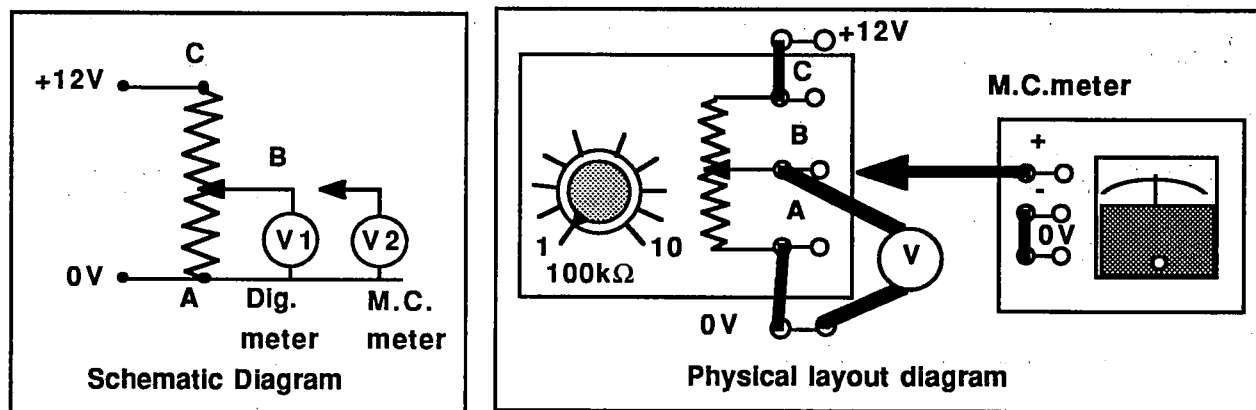

Figure 11
- Connect the circuit as shown in Fig 11 using the 100k Ω resistor and with the digital meter only, connected to the output socket B.
- Set the resistor rotary control fully counter clockwise. i.e. to setting 1 as indicated in Fig 11.
- (1) Using the digital meter only connected
- (2) Using the moving coil meter only connected
- (3) With both meters connected simultaneously.